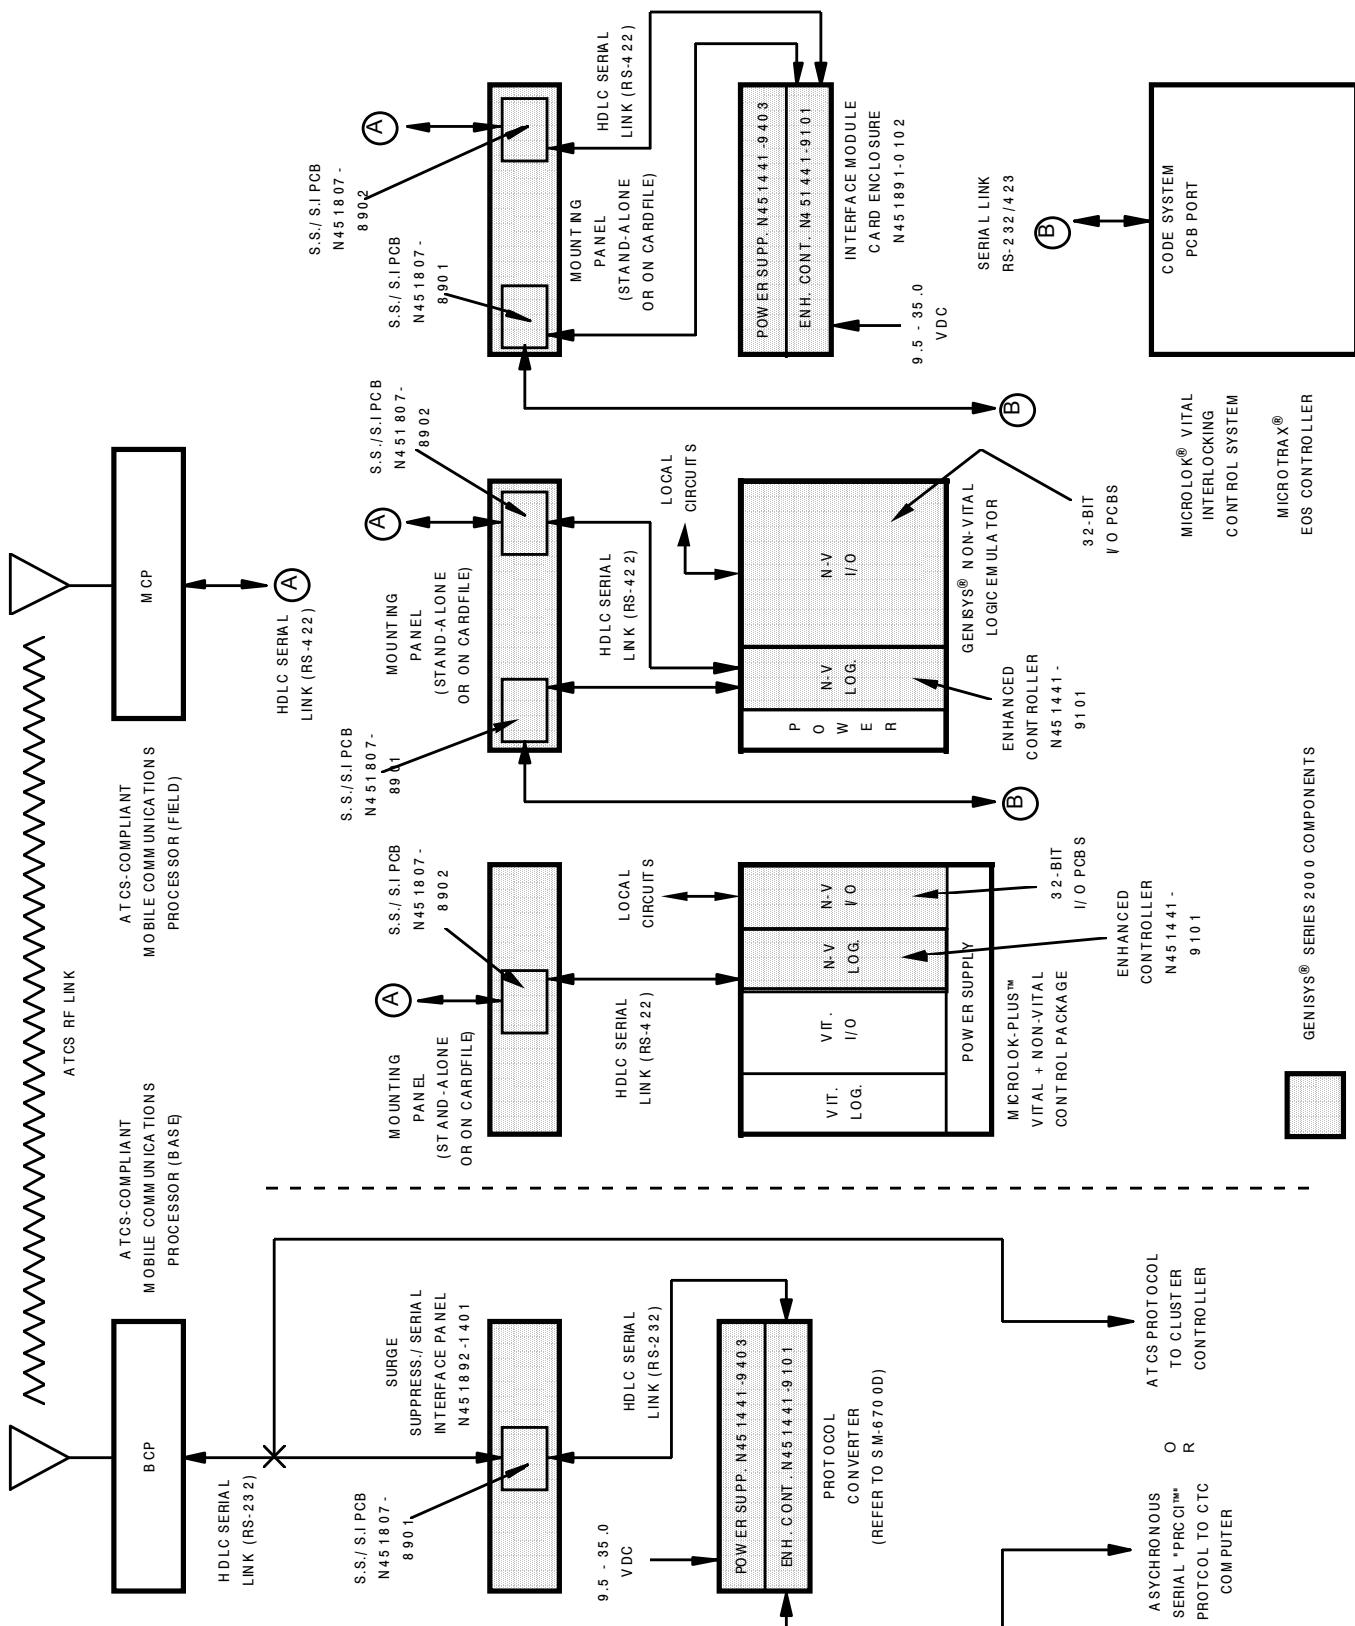

Figure 1-1. ATCS Communications Interface
1.3.1 General (Ref. Figures 1-1, 1-2, 1-3)
As shown in the right-hand part of Figure 1-1, GENISYS® Series 2000 components enable a direct interface between an ATCS-compliant Mobile Communications Processor (MCP) and US&S vital interlocking controllers*. If a new field installation requires local non-vital I/O (e.g. to a local control panel), the Enhanced Controller is housed in a GENISYS® or MICROLOK-PLUS™ cardfile. Existing GENISYS® or MICROLOK-PLUS™ installations can be retrofit with the Enhanced Controller to create the interface to the MCP. If there is no requirement for non-vital local I/O, the Enhanced Controller can be housed in the GENISYS Series 2000® Card Enclosure. Regardless of the installation, the Enhanced Controller contains the same interfacing/conversion software for the communications link with the MCP.
The Enhanced Controller PCB is used in all GENISYS® Series 2000 applications. It contains circuitry and software for performing non-vital logic functions in GENISYS® and MICROLOK-PLUS™ units, as well as the various communications interfacing functions in ATCS, serial code line and DC code line applications. When used in GENISYS® and MICROLOK-PLUS™ units, this board performs the same logic and local I/O interfacing functions as the N451441-5602 Controller. (The -5602 board does not have the signal interfacing/protocol conversion capabilities of the -9101 board). When used in the stand-alone field interface to a MICROLOK® or MICROTRAX End-of-Siding system (Reference Figures 1-1 through 1-3), the Enhanced Controller Board is housed in the GENISYS® Series 2000 Card Enclosure.
This board is used in ATCS and serial code line applications, and is housed in the Card Enclosure along with the Enhanced Controller to provide regulated operating power to the Controller (Ref. Figures 1-1 and 1-2). The application of -9403 board covered in this manual consists of the field stand-alone interface to a MICROLOK® or MICROTAX® End-of-Siding system. Refer to section IV, Code Line Interface PCB N451441-9401, Code Line Interface/Power Supply PCB -9042, Power Supply PCB N451441-9403, for a detailed description of this board.
GENISYS® Series 2000 Surge Suppressor/Serial Interface PCBs are used in ATCS (office and field) and serial code line applications to protect the Enhanced Controller from transient voltages (e.g. lightning-induced) on the serial communications interfaces (Ref. Figures 1-1 and 1-2). In addition, the PCBs interface RS-232 and RS-422 signal levels to the Enhanced Controller PCB. PCB part numbers are N451807-8901 and N451807-8902.